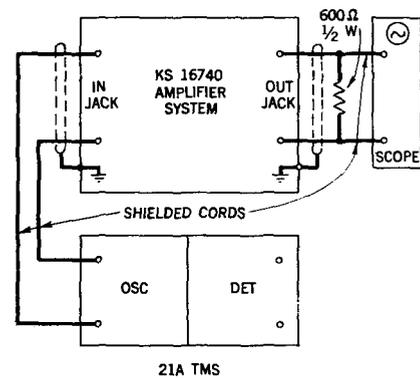
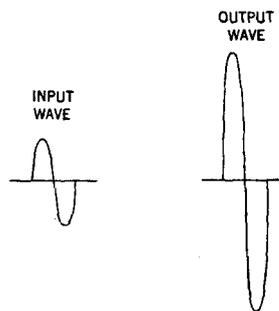

Fig. 3 - Test Setup for Observing Distortion (Waveshape)
Fig. 4 - Comparison of Input and Output Waveshape (Distortion)
6.01 The distortion test should be made in accordance with the test setup shown in Fig. 3. Chart III outlines the step procedure to be followed for the test. Fig. 4 shows a comparison between the input and output waveshapes where no harmonic distortion is present. The output waveshape should be considerably higher in amplitude than the input wave since the distortion is observed with maximum amplifier gain. Slight peaks and valleys on the output waveshape indicate the presence of distortion.
7	Without changing output level of OSC, connect circuit as shown in Fig. 3.